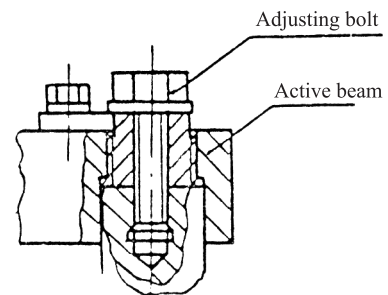

Fig.10-2
(4) Make use of the set bolt of the right lift cylinder cap (See Fig.10-2) to eliminate the difference in height between the right and left cylinder caps.